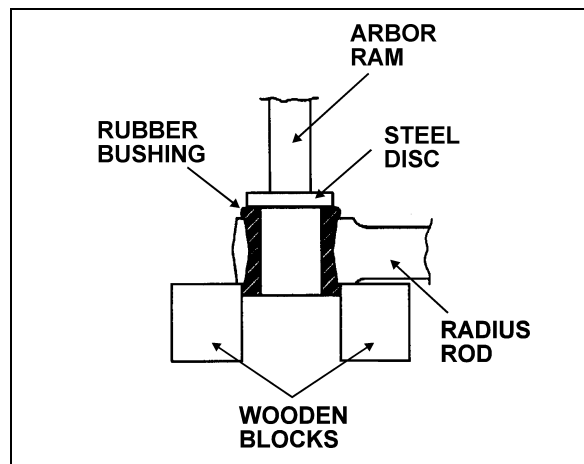

FIGURE 45: RADIUS ROD BUSHING REMOVAL 16011
- Safely support the radius rod as shown in figure 45.
- Place a flat steel disc, slightly smaller than the outside diameter of the bushing (Fig. 45).